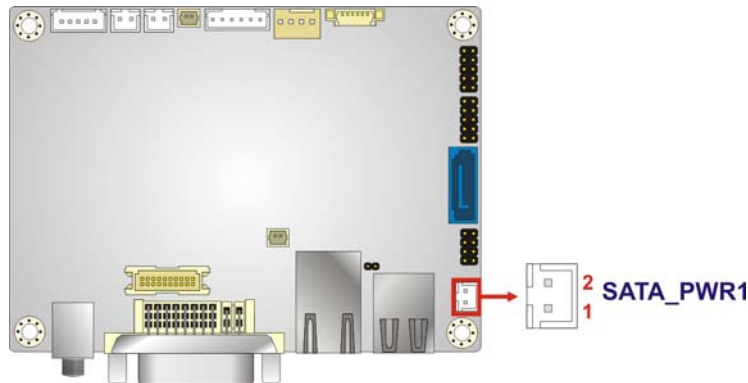

Figure 3-17: SATA Power Connector Location
- CN Location: See **Figure 3-17**